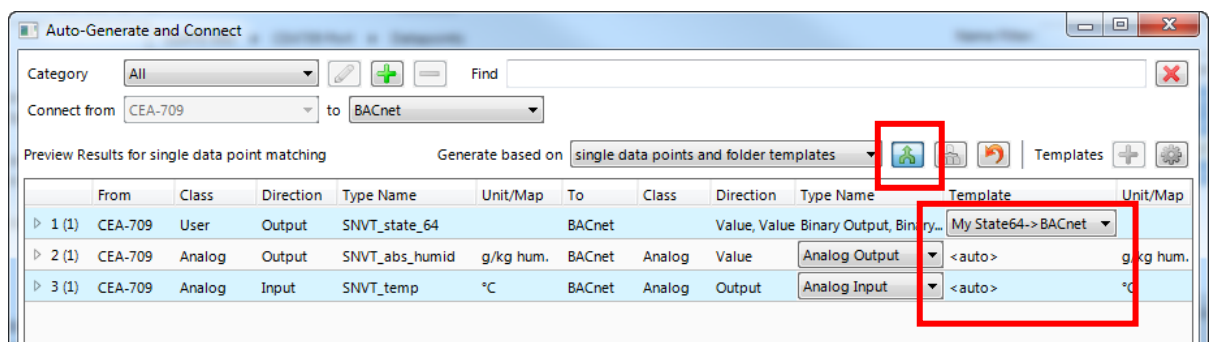

Figure 217: Auto-generate and connect with auto-generate template.
8. Select an auto-generate template in the drop-down box of the **Template** column as shown in Figure 217.